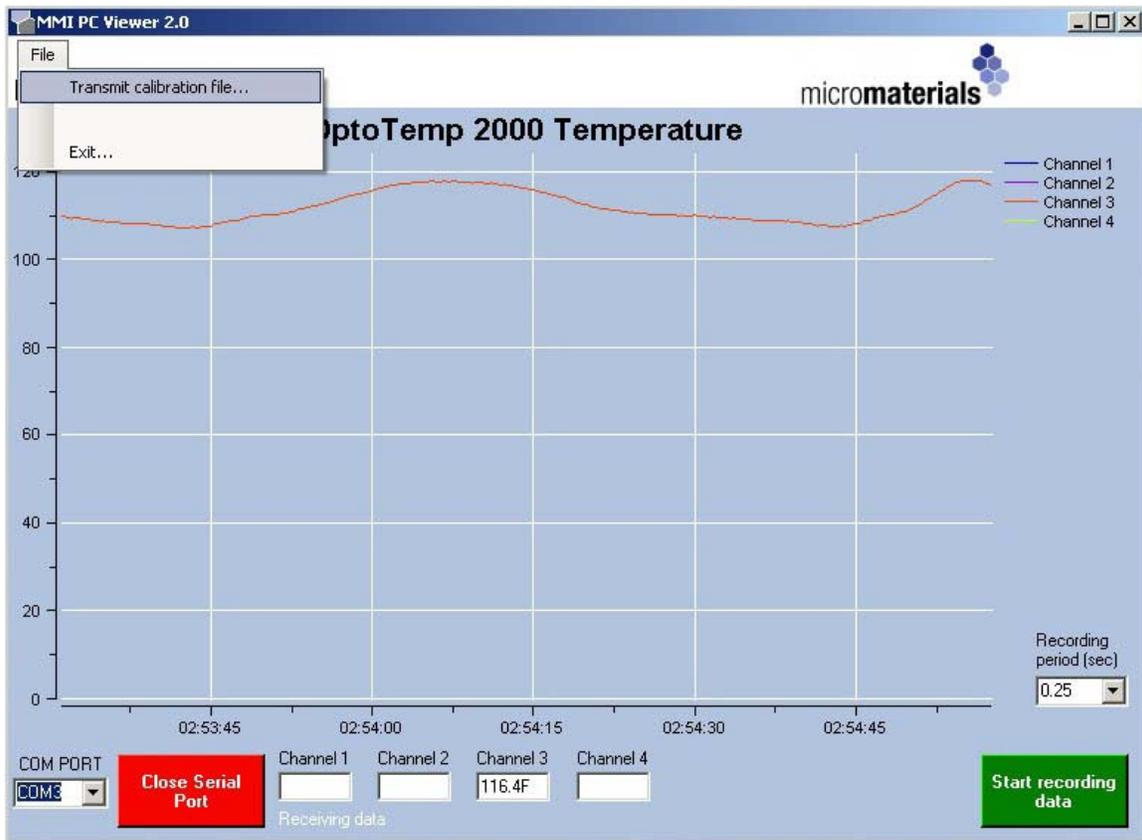

Figure 5 – Recording data and sending a new calibration file
When the OptoTemp 2000 is connected and the port is open, the temperature readings will automatically begin to appear on the chart as shown in Figure 5. To change the time scale of the chart, choose a different time interval by using the drop-down list under Recording Period (sec).
Data can be recorded to a .txt file at a specified frequency. To record data, click the “Start recording data” button as shown in Figure 5. You will be asked to select a .txt file to record to, or simply type in the name of a new file to be created. The recording frequency can be changed by selecting a different time period under Recording Period (sec).
2. Click on file on the menu and then “Transmit Calibration File...” as shown in Figure 5.